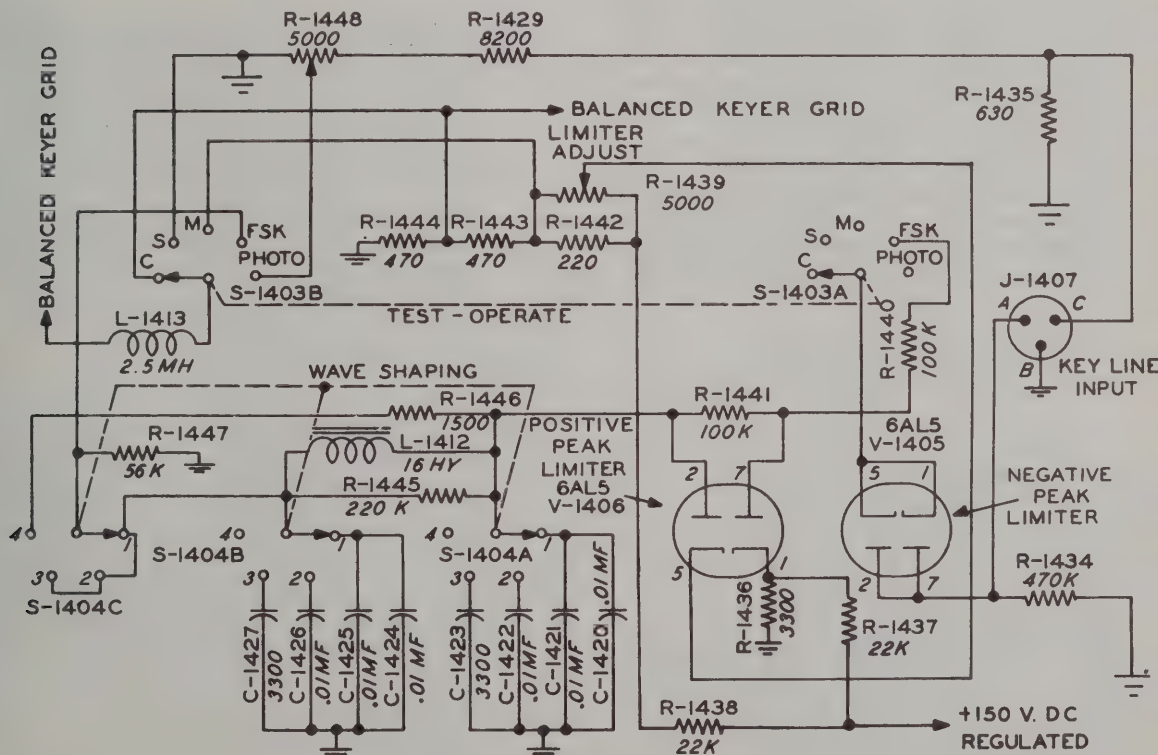

Figure 108. Frequency-Shift Keyer KY-45/FRT-5, Limiters and Wave-Shaping Filter, Schematic Diagram.
- (5) *Limiters and wave shaping filter (fig. 108).* Teleprinter or picture transmission signals are applied to the keyer line input connector J-1407. Teleprinter signals pass through negative peak limiter V-1405, providing only positive keying impulses at S-1403A. On the FSK position of S-1403A, a positive-peak limiter provides essentially fixed voltage having square-wave characteristics to the wave-shaping filter. The wave-shaping filter is a low-pass pi section. Through selecting the proper position of S-1404, it is possible to apply the desired amount of waveshaping to the square wave delivered by the limiter tubes. Waveshaping at this point materially reduces the side-band-frequency components which are present with square-wave keying. The TEST-OPERATE switch, S-1403, provides a means by which carrier, space-mark, FSK, or